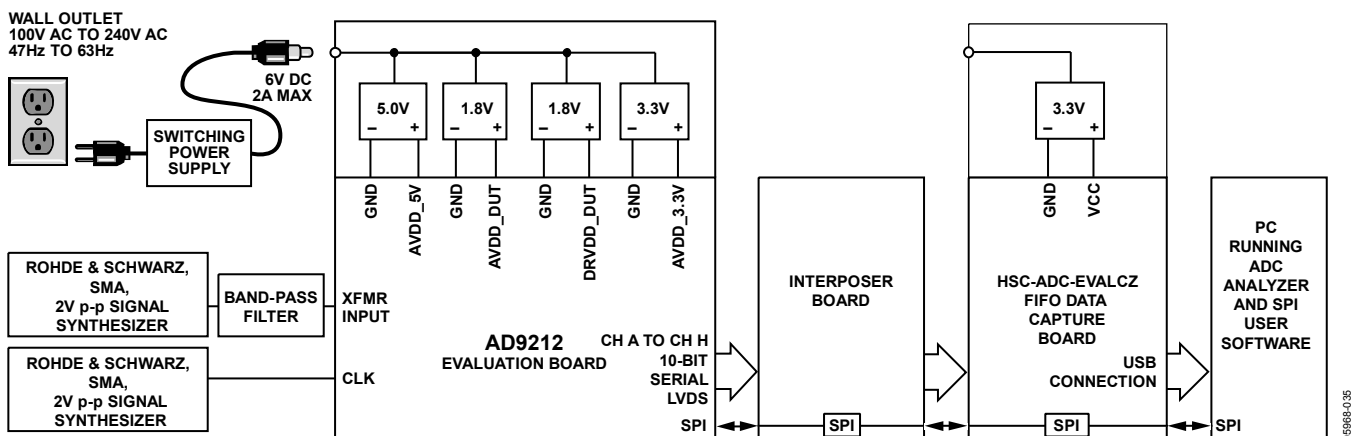
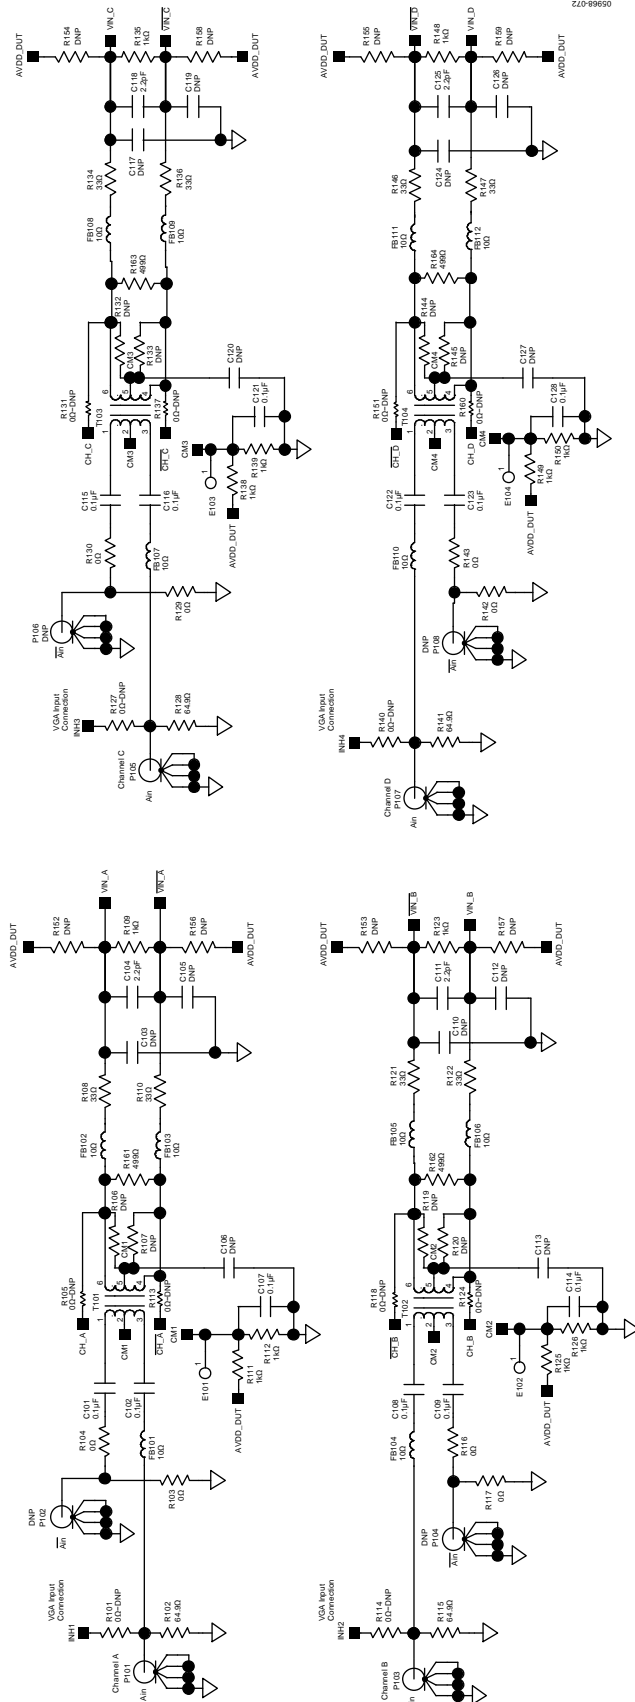
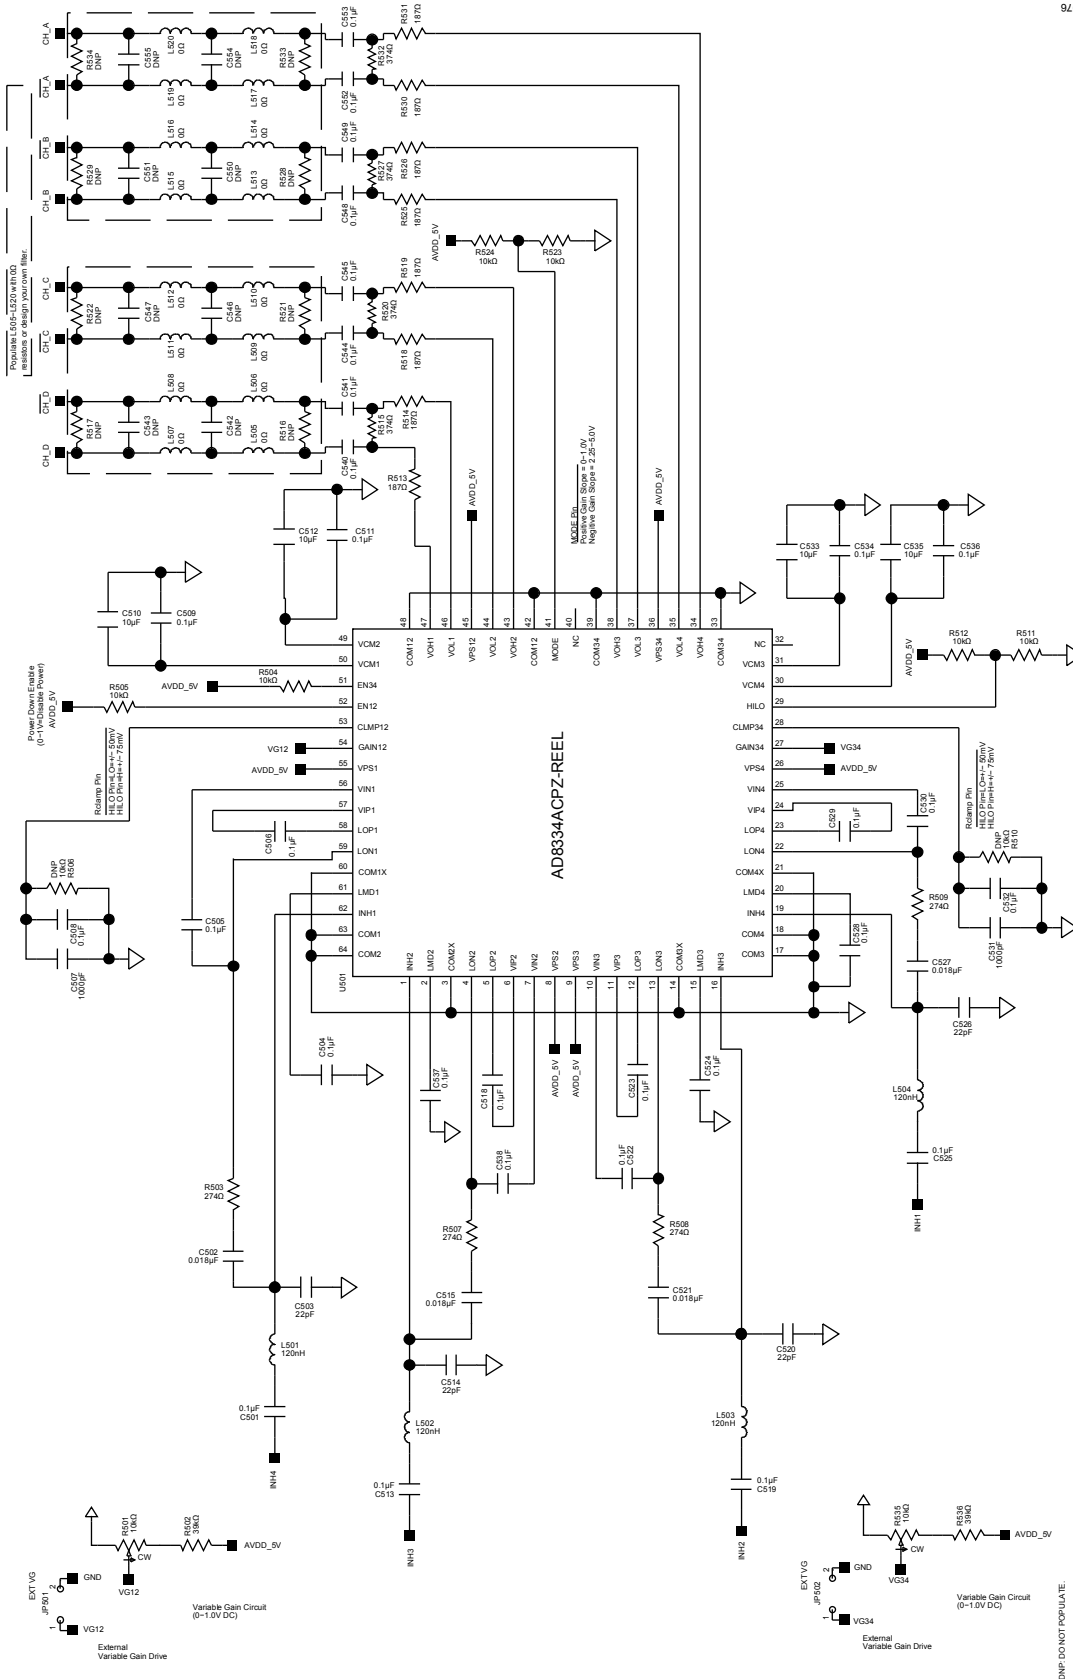

Figure 70. Evaluation Board Connection
Figure 74. Evaluation Board Schematic, DUT Analog Inputs
Figure 78. Evaluation Board Schematic, Optional DUT Analog Input Drive
The AD9212 evaluation board provides all the support circuitry required to operate the ADC in its various modes and configurations. The converter can be driven differentially by using a transformer (default) or an AD8334 driver. The ADC can also be driven in a single-ended fashion. Separate power pins are provided to isolate the DUT from the drive circuitry of the AD8334. Each input configuration can be selected by changing the connections of various jumpers (see Figure 74 to Figure 78). Figure 70 shows the typical bench characterization setup used to evaluate the ac performance of the AD9212. It is critical that the signal sources used for the analog input and clock have very low phase noise (<1 ps rms jitter) to realize the optimum performance of the converter. Proper filtering of the analog input signal to remove harmonics and lower the integrated or broadband noise at the input is also necessary to achieve the specified noise performance.
See Figure 74 to Figure 84 for the complete schematics and layout diagrams demonstrating the routing and grounding techniques that must be applied at the system level.
- **D + x, D - x:** If an alternative data capture method to the setup shown in Figure 74 is used, optional receiver terminations, R318 and R320 to R328, can be installed next to the high speed backplane connector.